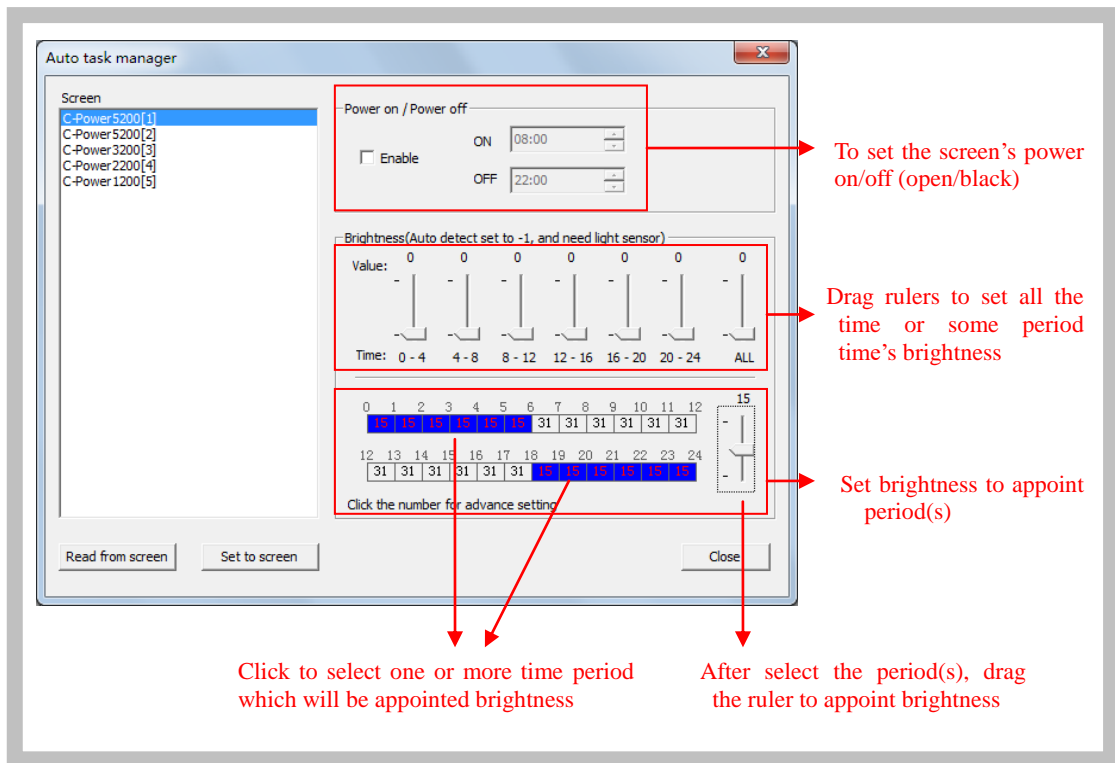

Figure46 Auto task manager
- 1) Click "Setting" – "Auto task" in menu. The dialog box of "Auto task manager" pops up, as shown in Figure46.